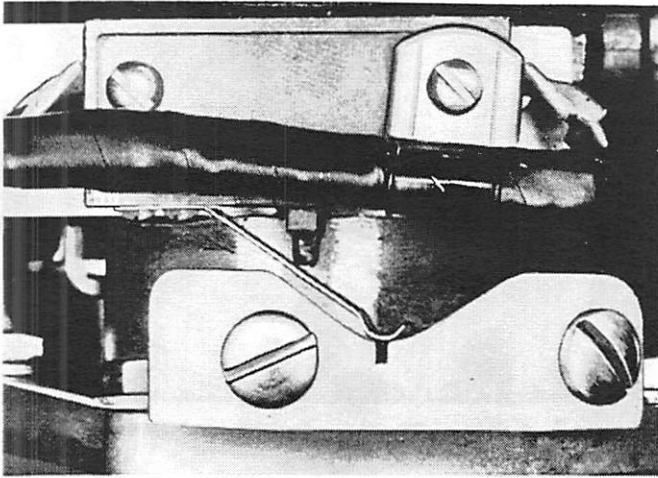

Figure 8. Forward Starting Switch Adjustment, Late Merc 700
- b. Adjust forward switch so that the rubbing portion of the spring leaf is in the bottom center of the nylon cam. Cam has mark for lineup, as shown in Figure 8.